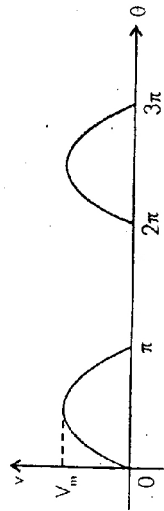

Fig. 2.7
7. Find average and rms value of the waveform shown in Fig. 2.7.